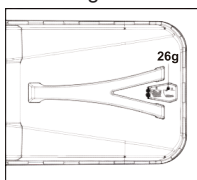

Fig. 15
2. When the hatch (26g) is closed, the grass catcher (26) is full and must be emptied (Fig. 15).